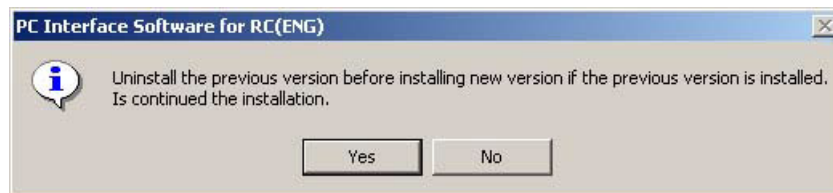

Fig. 1.3 Previous Version Install Check Window
- [3] A previous version install check window (Fig. 1.3) is displayed.